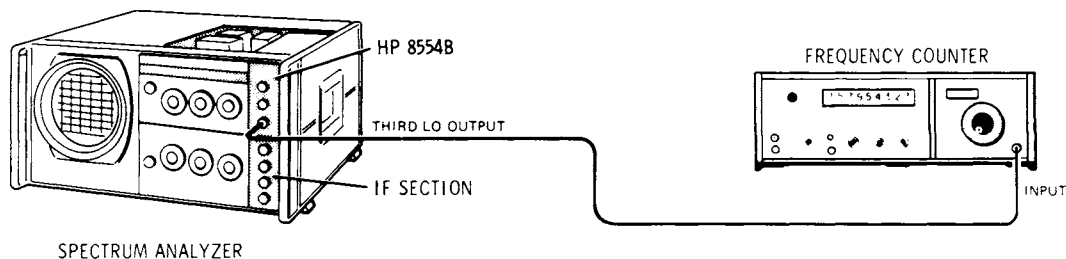

Figure 5-1. 500 MHz Local Oscillator Adjustment Test Setup
2. Connect the frequency counter to the THIRD LO OUTPUT as shown in Figure 5-1.